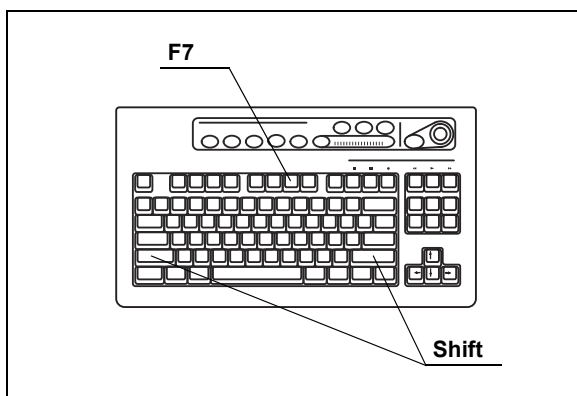
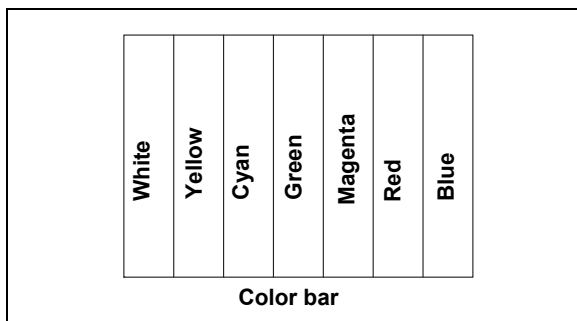

Figure 5.39
Figure 5.40
2. Press the “Shift” and “F7” keys together (see Figure 5.39). The color bar appears on the monitor (see Figure 5.40).
5. Press the “Shift” and “F7” keys together (see Figure 5.39) to return to the endoscopic image screen.